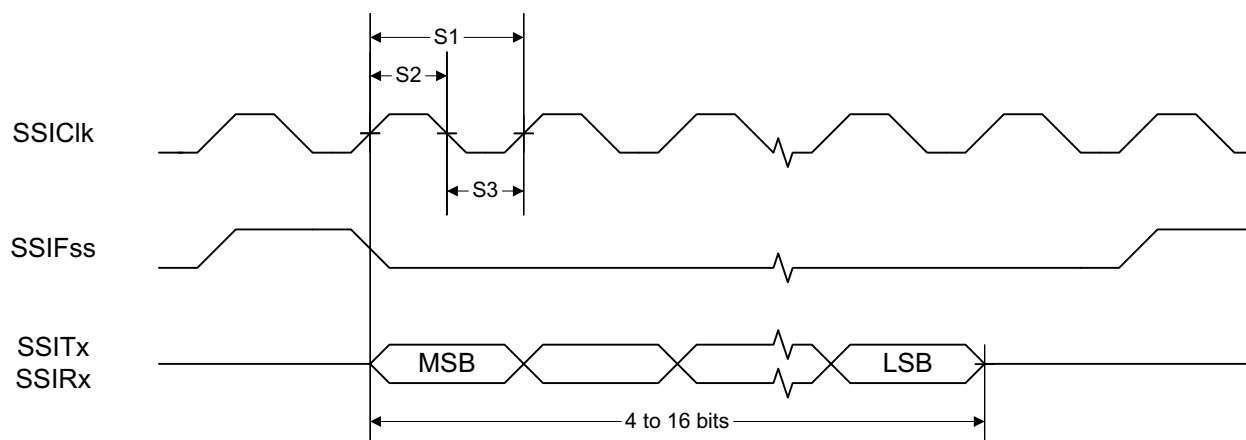
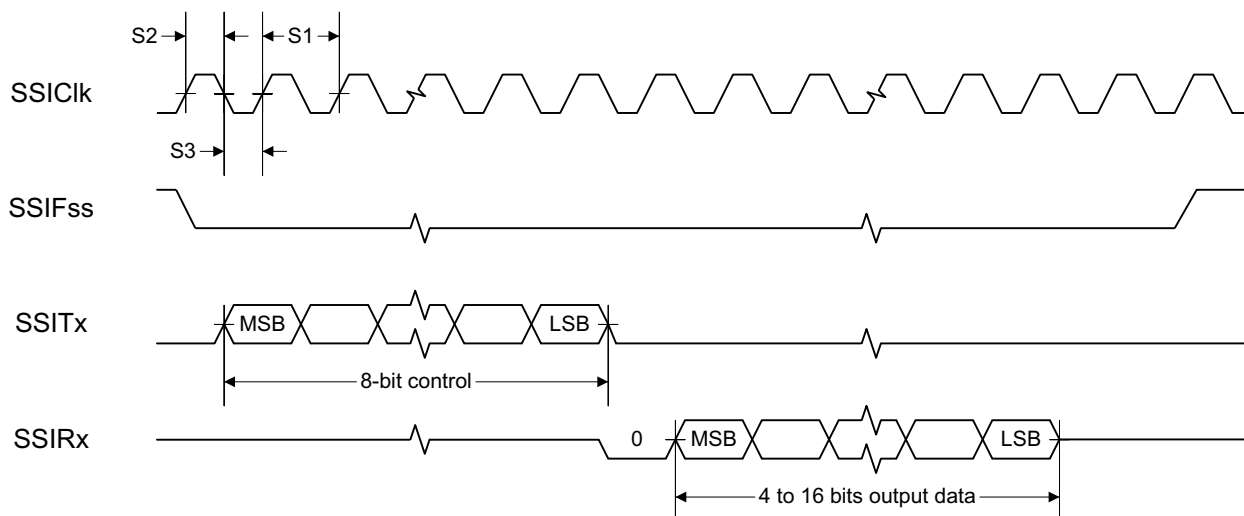
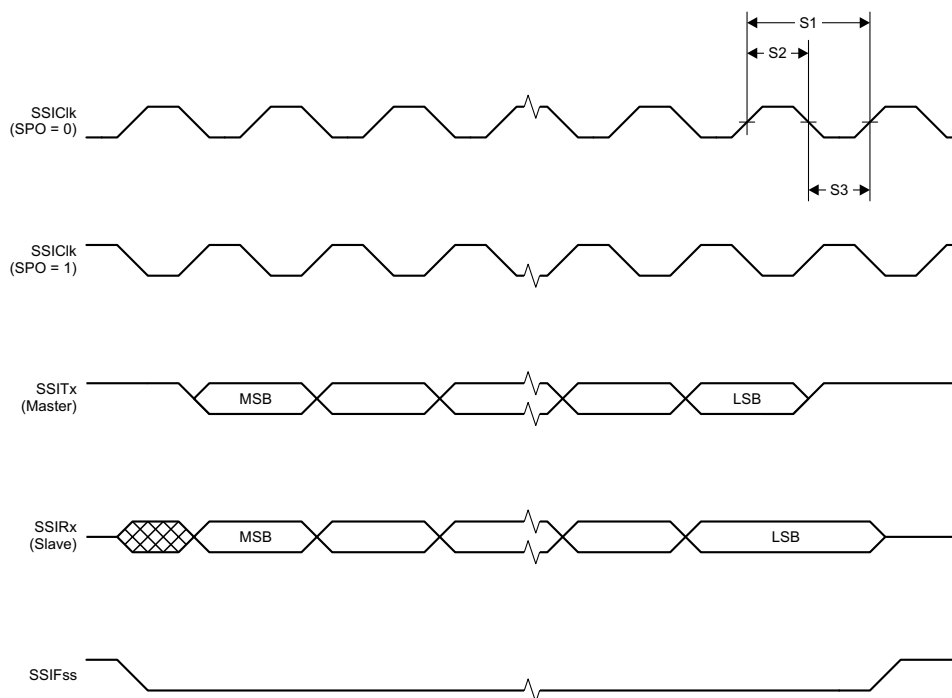

Figure 7-1. SSI Timing for TI Frame Format (FRF = 01), Single Transfer Timing Measurement
Figure 7-2. SSI Timing for MICROWIRE Frame Format (FRF = 10), Single Transfer
Figure 7-3. SSI Timing for SPI Frame Format (FRF = 00), With SPH = 1
- (1) Refer to SSI timing diagrams Figure 7-1, Figure 7-2 and Figure 7-3.
- (2) When using the TI-provided Power driver, the SSI system clock is always 48 MHz.